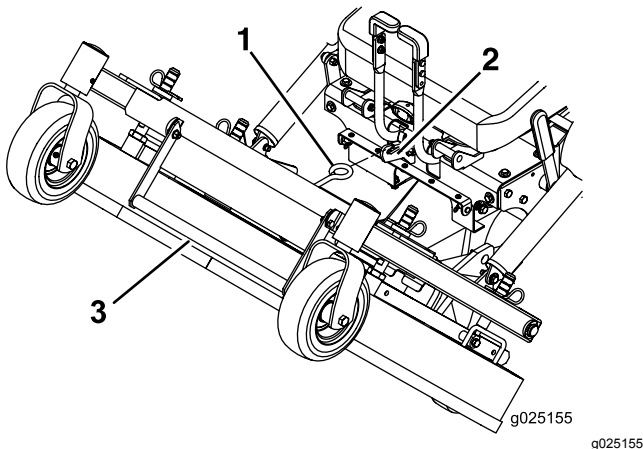

Figure 10
3. Using the deck-lift handle, lift the deck up and latch it in the Up position (Figure 10).
1. While firmly holding onto deck-lift handle, unhook the mower-deck latch from the machine and slowly lower the mower deck to the ground (Figure 10).